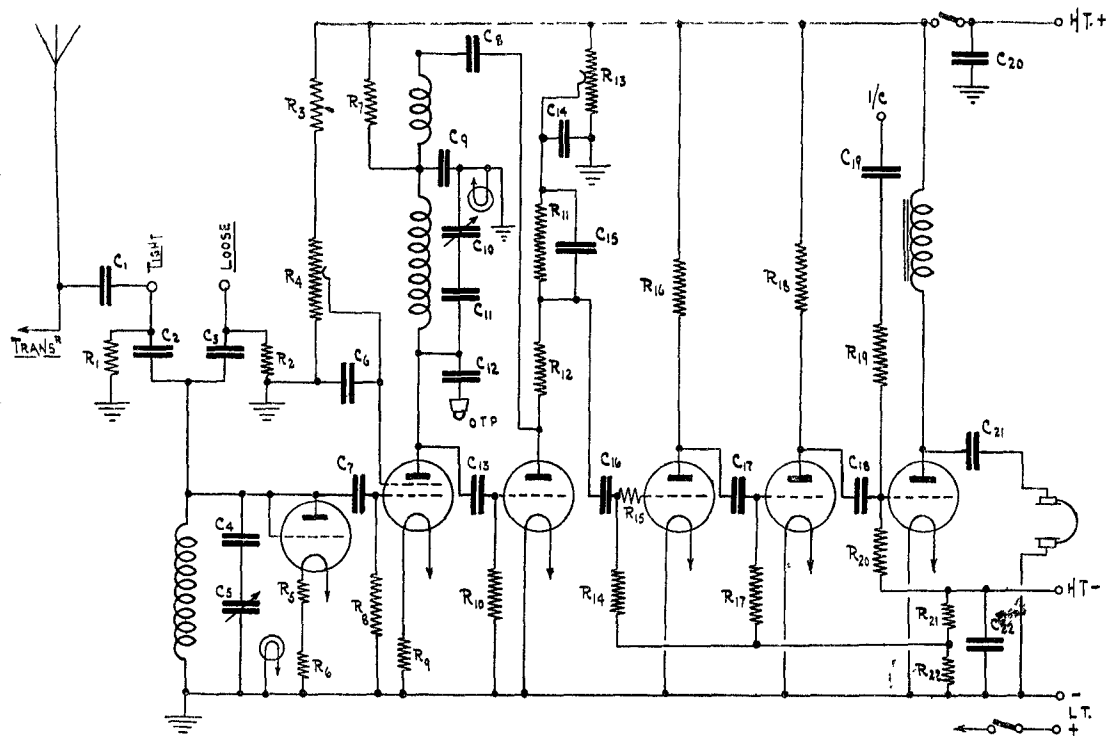
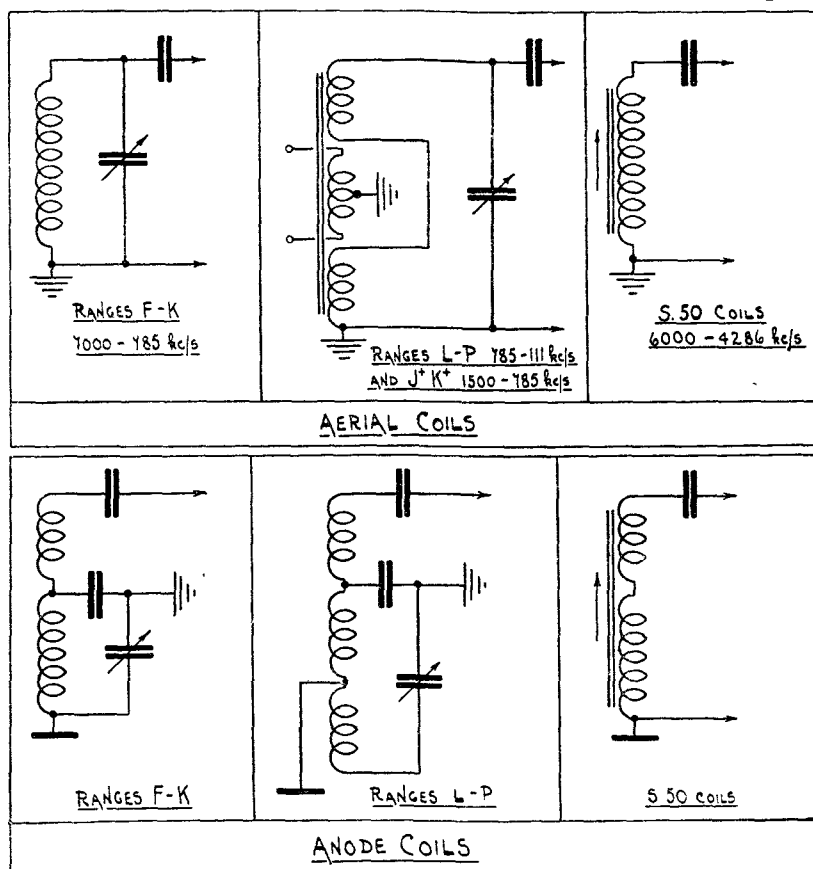
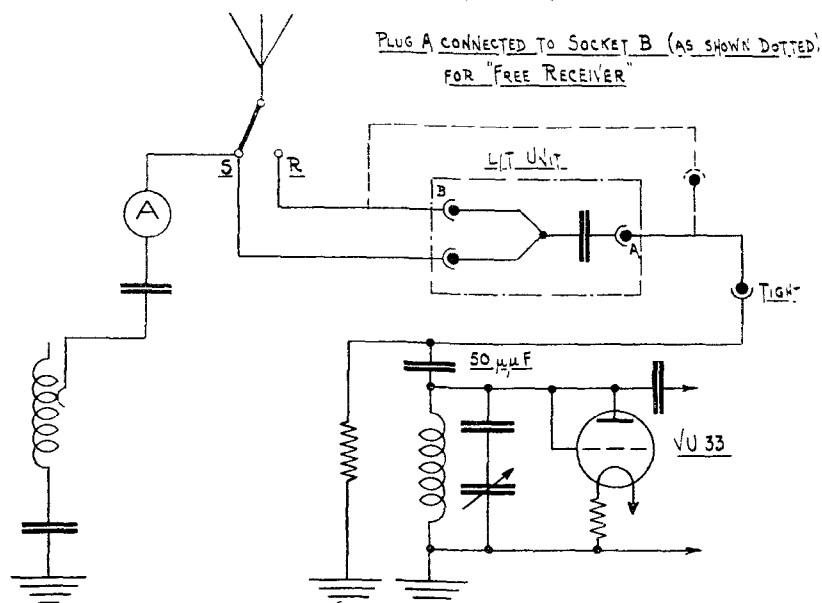

FIG. 67.—Receiver R.1082.
FIG. 68—Coils for R.1082 (ranges A-E (15-7 mc/s) shown in Fig. 67).
FIG. 69—"Listening through" circuits (R.1082-T.1083).
6. **Circuit** (see fig. 67).—Circuit changes are effected by plug-in coils in aerial and anode circuits (fig. 68). The “limiter” valve is a triode wired to operate as a diode, shunted across the input circuit and biased slightly negative. Because of this bias it will have no effect on normal signals, but when using “listening through” arrangement (fig. 69) (i.e. when T.1083 and R.1082 are coupled to the same aerial) it prevents damage to the R.F. valve or circuits from the very large input from the transmitter. When the transmitter key is pressed, large voltages start to build up across the R.1082 aerial coil. The limiter valve becomes conductive as soon as these voltages exceed its fixed bias, and it shunts the input circuit.
(vii) Another external component is the high voltage " listening-through " condenser (fig. 69). The plug and socket connection to the *L.T.* condenser permits either " listening-through " or " free receiver " operations. " Listening-through " (possible when transmitter and receiver use the same